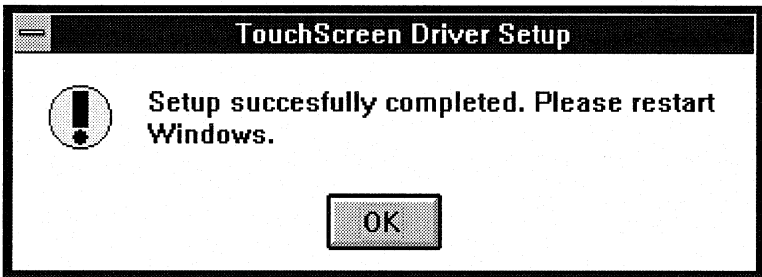

fig. A-7
10. When the driver software is successfully installed and set up, the following screen will appear (fig. A-7). Click OK and restart Windows.